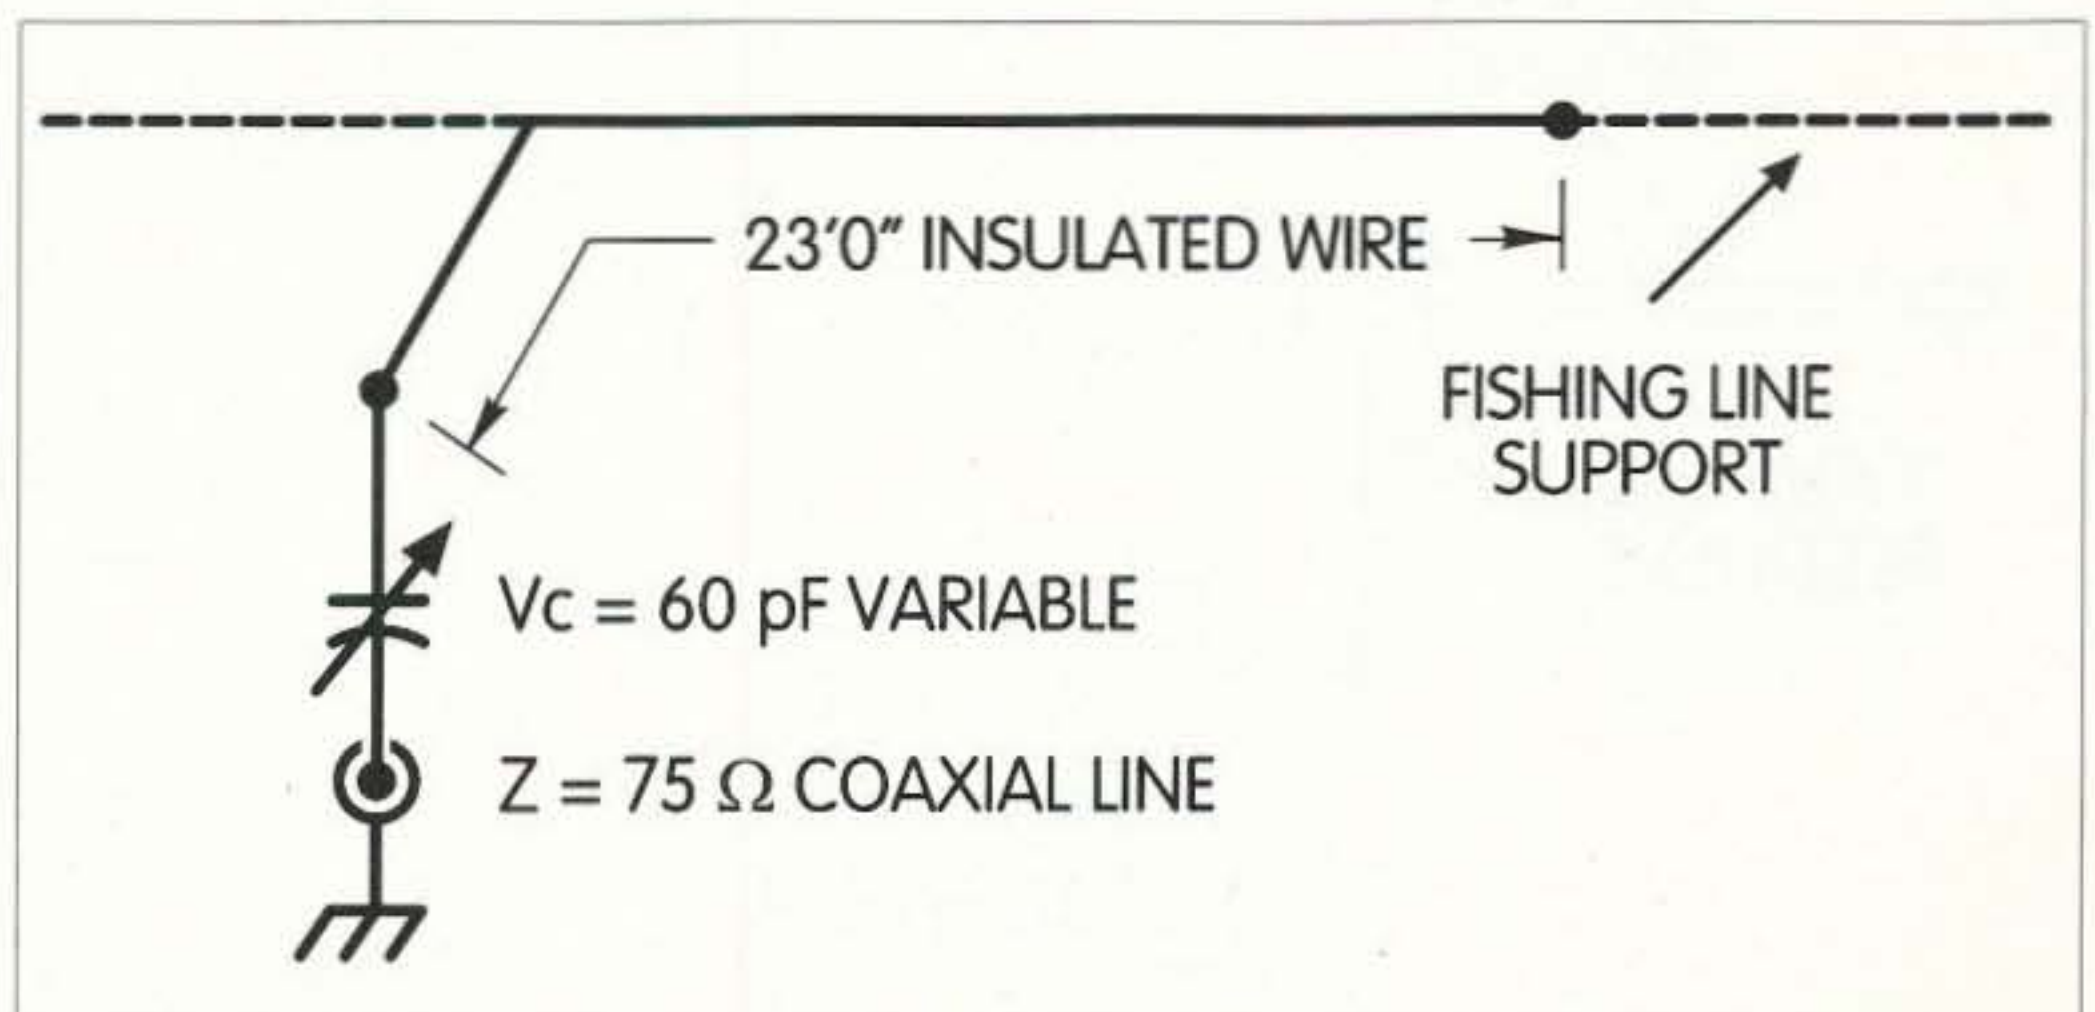

Fig. 1. 20-meter antenna.
The simple design is shown in Fig. 1. It consists of 23 feet of wire, supported by nylon fishing line, which also acts as end insulation. A series variable capacitor (VC) is used to tune out the reactance. The variable used was a 60 pF, though 100 pF could be used. This variable should be a good-quality small transmitting type, though a wide-spaced, well-insulated, receiving type could be used up to about 20 watts. As it is at a high voltage point, it should be enclosed in a small plastic
Fig. 1, the antenna length of 23 feet represents $\lambda/3$ at 14,030 kHz. This frequency was selected from experience, on the basis that though the electrical length might change somewhat (if the antenna was bent somewhat or erected horizontally or sloping), it could still be used in the CW spectrum, 14,000–14,100 kHz or more. Past experience shows that this has held good, in various installations, in various places.
Fig. 1 is an in-room layout, with the antenna running diagonally across the